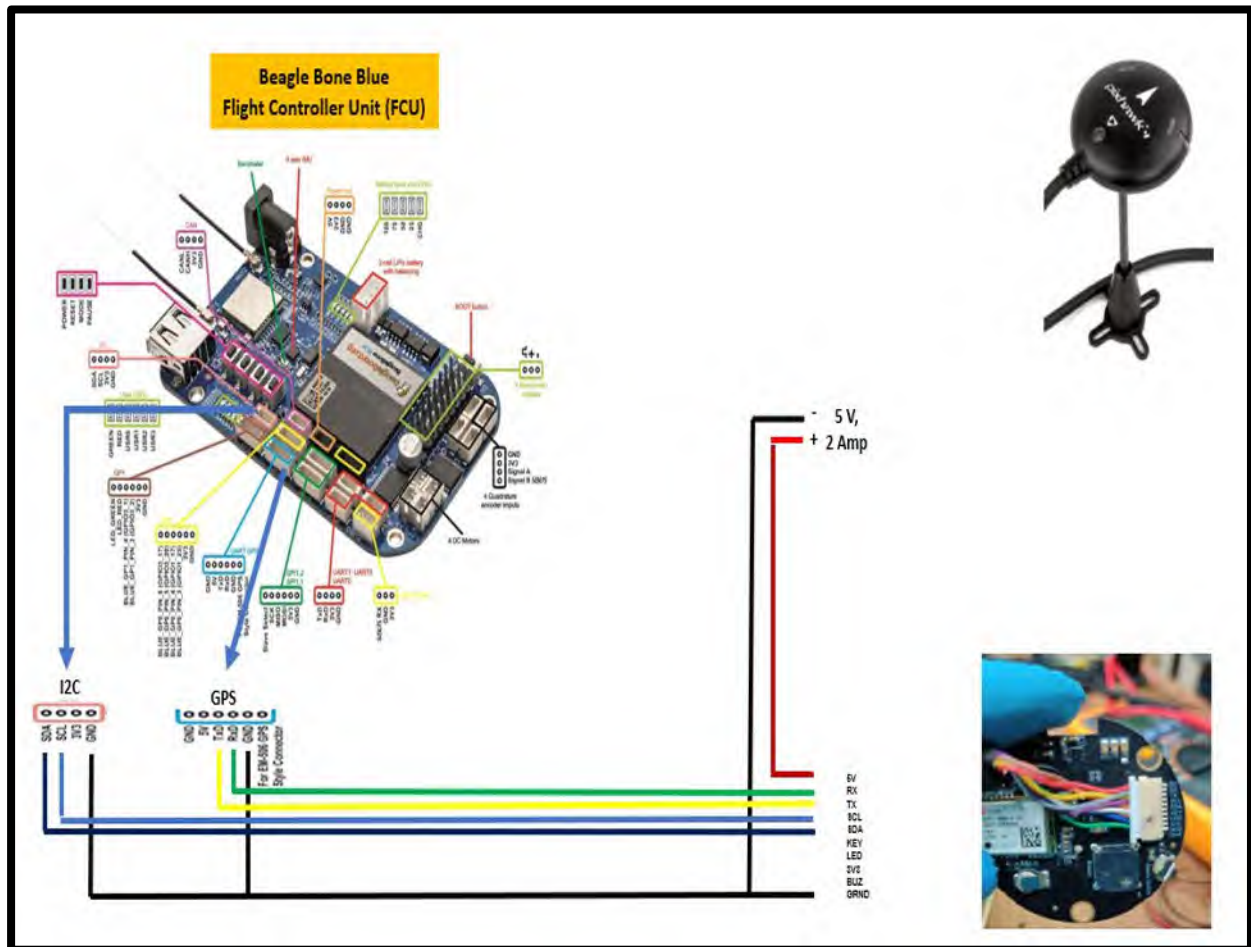

Figure 3.10: Connectivity diagram for physical integration of GPS with compass with Beagle Bone Blue which is the FCU
protocols are PWM (universal), PPM or CPPM (universal), SBUS (Futaba, Frsky), IBUS (Flysky), XBUS (JR), MSP (Multiwii), CRSF (TBS Crossfire), SPEKTRUM1024 (Spektrum DSM2), SPEKTRUM2048 (Spektrum DSMX), FPort (Frsky). I am using the SBUS protocol for the choice of RC receiver i.e X8R. It is connected to SBUS interface on Beagle Bone Blue in case of all three drones i.e X-Type, V-Type and Hexacopter. It requires The 5V and 1-2 Amp power is provided separately through DC convertor and the overall connectivity diagram in Figure 3.10. SBUS is a bus protocol utilized by receivers in order to send commands. Its a digital loss-less bus architecture protocol which uses only 3 wires (signal, power, ground) for multiple channels. Compared to commonly used PPM which is a signal in time domain, SBUS protocols is digital and requires a serial port on the flight controller i.e UART. A single serial line supports upto 16 channels with each receiving a unique command. This SBUS protocol uses an inverted serial logic. It has a baud rate of 100000, 8 data bits, even parity, and 2 stop bits. The packet size of SBUS is 25 bytes and contains: